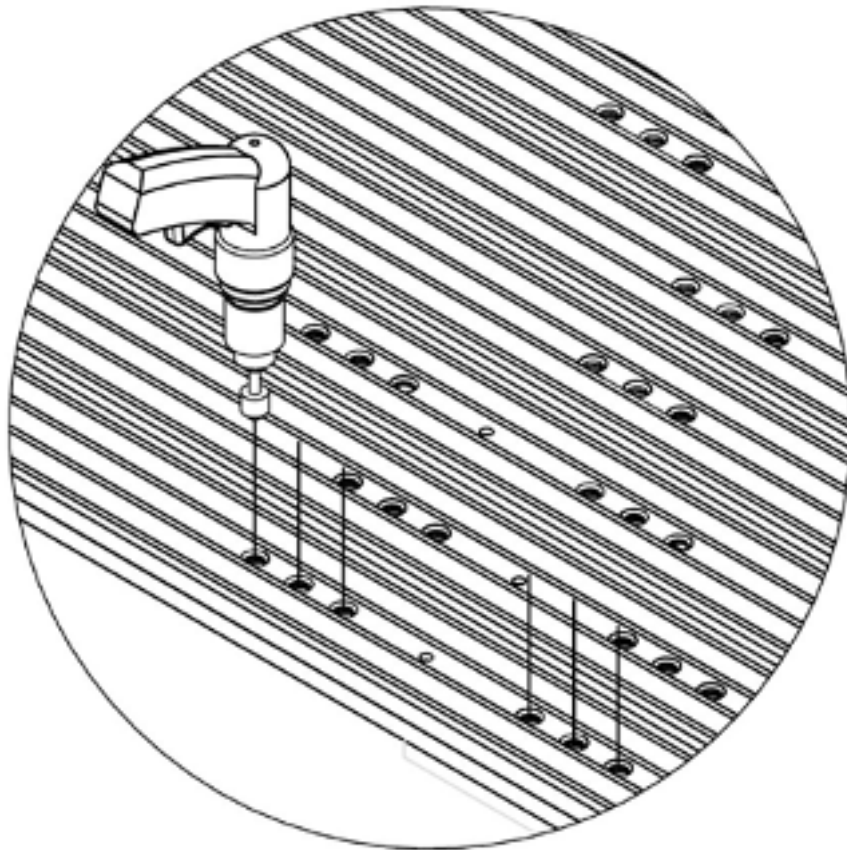

Figure 32
f. Countersink each of the 1/2" [13mm] holes with a 1"x 90° countersink until the floor bolts can be inserted flush with the top surface of the slat/plank. (Figures 32 and 33).